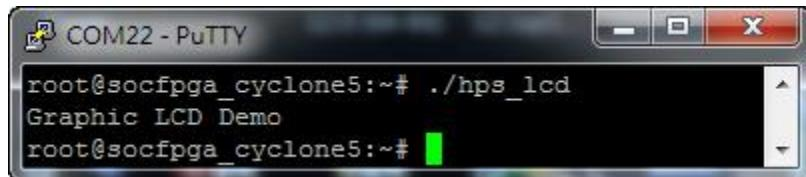

Figure 6-13 Launch LCD Demonstration
- In the UART terminal of PuTTY, type "./hps_lcd" to start the LCD demo, as shown in **Figure 6-13**.